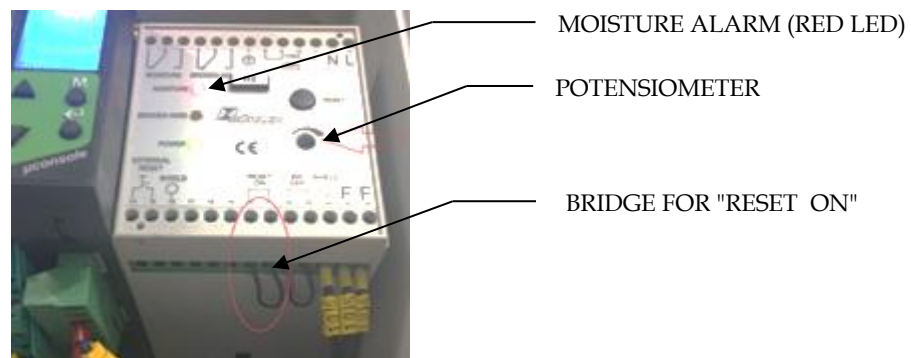

Figure 13 Moisture sensor controller
- 3) Make sure bridge for "RESET ON" is removed. Refer to Figure 13.
- 4) Adjust potentiometer clockwise until moisture alarm is activated (red LED). Refer to Figure 13.
- 5) To adjust the moisture sensor against ambient air, reset the alarm and activate the set point by adjusting the potentiometer $\frac{1}{4}$ turn counter clockwise. Refer to Figure 13. (The red LED is turned off.)